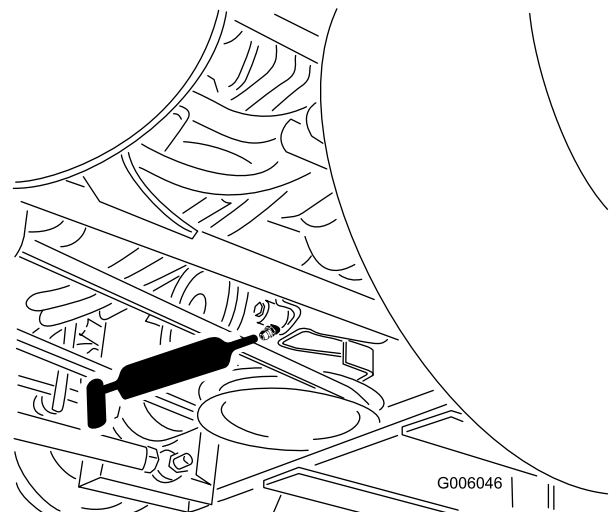

Figure 34
6. Grease the PTO drive belt idler arm (Figure 34).